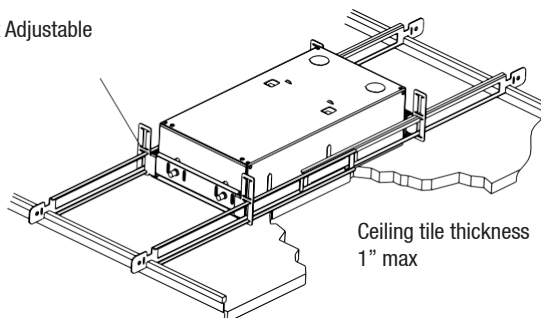

Figure 2: T-Bar Mounting Up to 2" High
1. To install backbox onto t-bars, orient the back box adjustable brackets to allow the hanger bars to slide through the "I" shaped opening (Figure 2). (**NOTE: to access the hardware for the hanger bar adjustment brackets, you must remove the splice cover and/or the battery. Refer to page 3 for instructions on removing the splice box cover, figure 7 and 8**). Adjust the height of bracket, mounted to the backbox, then tighten bolts inside the backbox. Hanger bars will rest directly on drop ceiling t-bars.